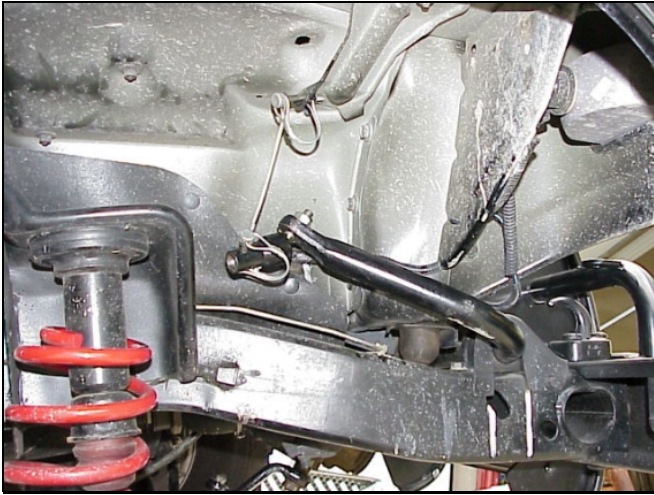

Figure 15
- 3) ☐ Connect the sway bar to the inside of the fender wells as shown in figure 15. Use the drilled hole (from figure 11) and the hitch pin assemblies.